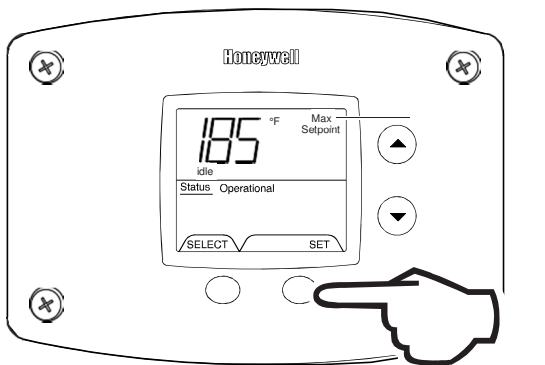

Figure 39 'Max Setpoint' continues to flash while making adjustments
1. In service mode press the 'Select' button until 'Max Setpoint' is displayed (Fig. 39).